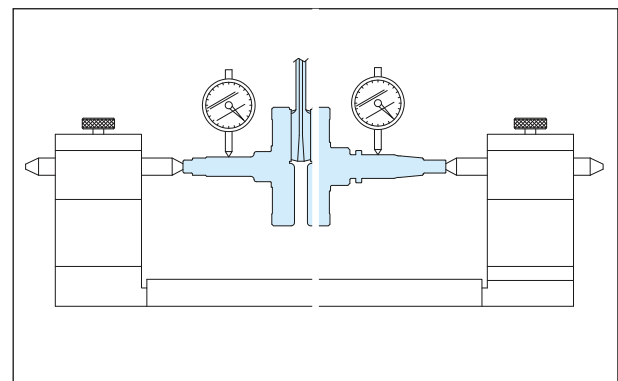

Fig. 3.91
- Mount the dial indicator at the positions shown to read the runout. Runout should be within the service limit. (Fig. 3.91)